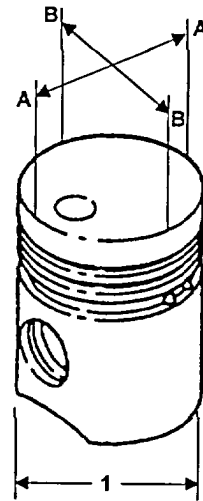

FIGURE 5-42. MEASURE PISTON
- d. Measure piston diameter (Figure 5-42, Item 1) along axis "A" and "B". A normal or new piston diameter should be 2 8724 inches (72 96 mm) If piston is out-of-round, replace piston